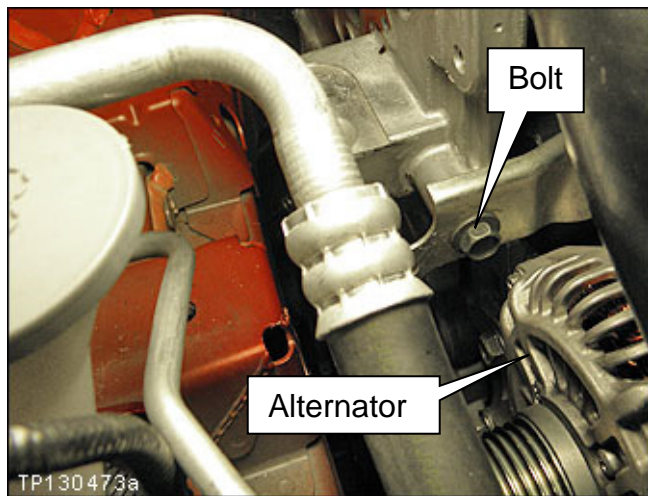

Figure 27
36. Remove the bolt shown in Figure 27.